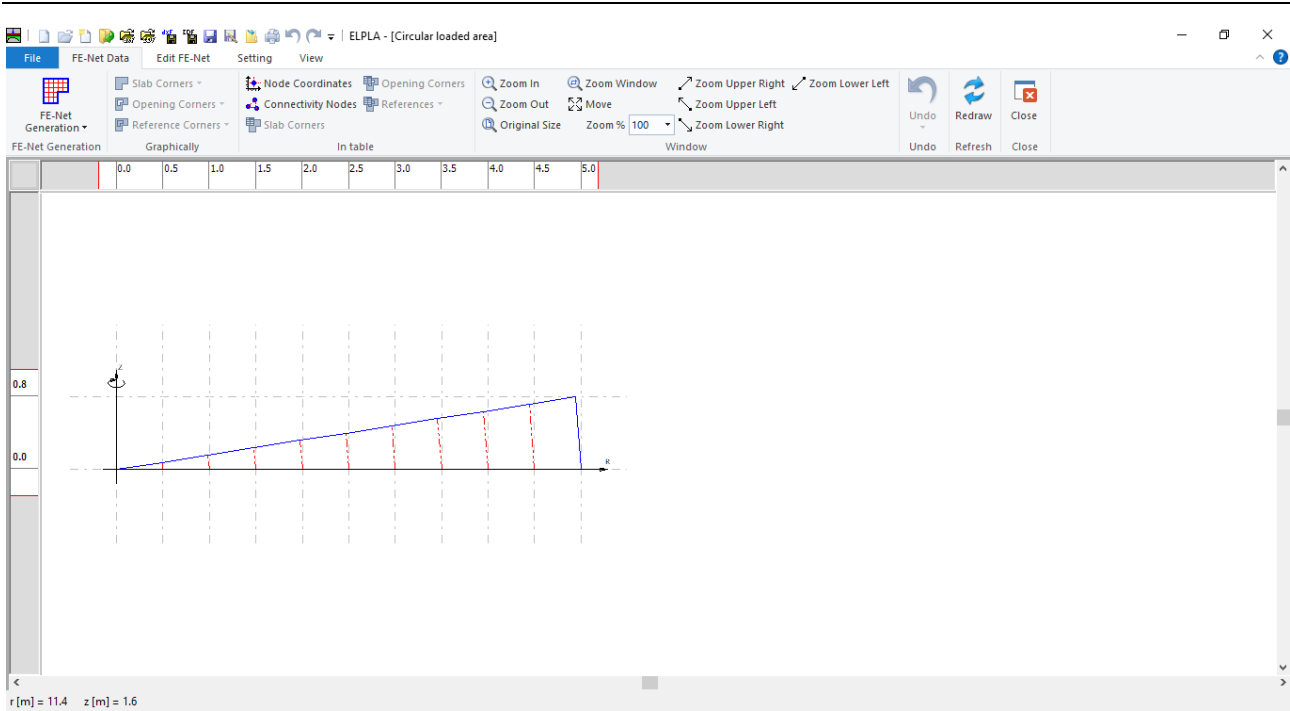

Figure 1.9 Generated FE-Net
ELPLA will generate a sector from the circular area with 10 circular elements. The following window in Figure 1.9 appears with the generated net.
- Choose "Save" command from "File" menu in Figure 1.9 to save the data of the FE-Net
- Choose "Close" command from "File" menu in Figure 1.9 to close the "FE-Net" window and return to *ELPLA* main window